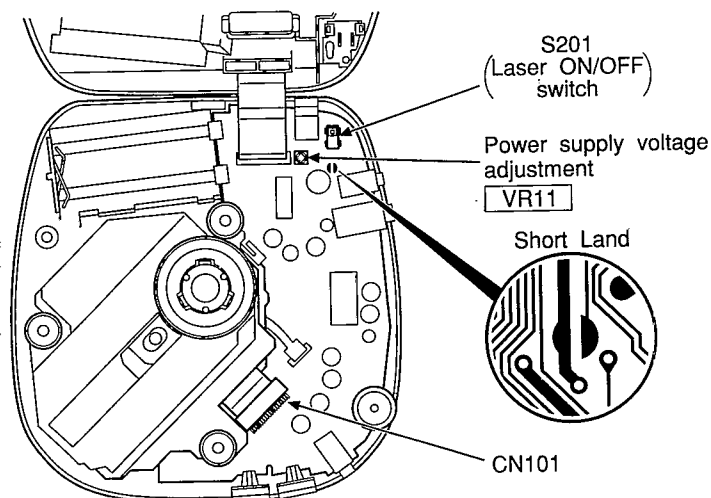

Fig. 1
Short-circuit the lands of the laser ON/OFF switch (S201) by soldering them. It turns "ON" position. (Refer to below **Fig. 1** or printed circuit board and wiring connection diagram for short land location on page 32.)
2. Take care to connect CN101 and CN102, as shown in **Fig. 1**.
4. Adjust **VR11** on the P.C.B. at **3.10 ~ 3.14 V**, as shown in **Fig. 1**.
Fig. 1 is a block diagram showing the compression-shockproofing mechanism, the difference of which from the conventional mechanism is as follows: Input information read out at double speed undergoes data compression (16 bits → 4 bits) by the encoder in the ADPCM (Adaptive Difference PCM) and stored in the external memory; the stored memory information undergoes data elongation (4 bits → 16 bits) by the decoder in the ADPCM and supplied at normal speed to the D/A converter.